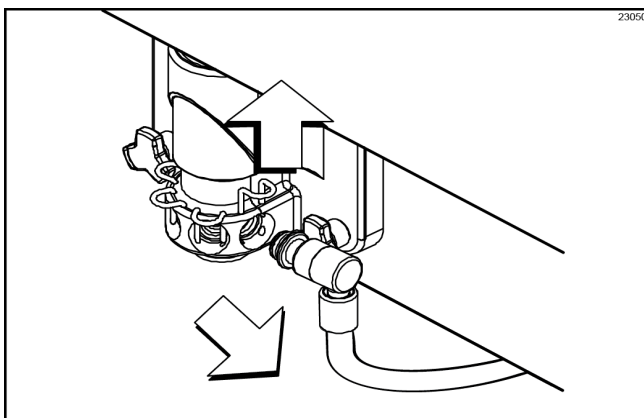

Figure-46
4. Disconnect the syrup valve from the freezer door. Raise the syrup valve retainer and pull the valve straight out. (See Figure-46.)